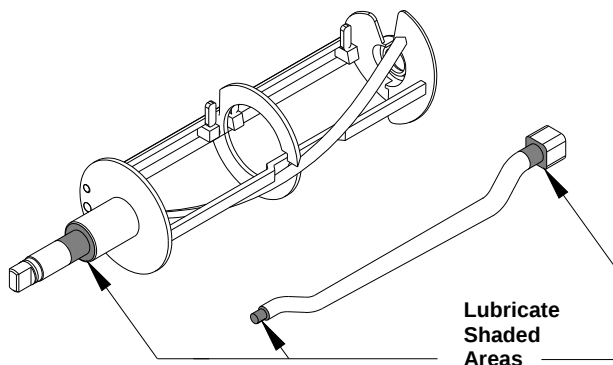
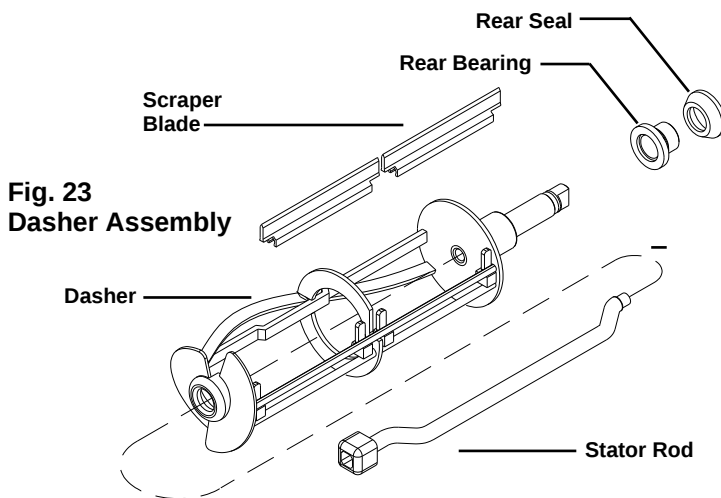

Fig. 22a
Fig. 23
- b. Lubricate the two areas of the stator rod (Fig. 22a) and slide the stator rod into the dasher (Fig. 23). Make certain that the end of the stator rod is inserted into the hole at the rear of the dasher.
- c. Assemble and install the rear seal with the rubber portion toward the rear of the freezing cylinder as indicated in Fig. 23.